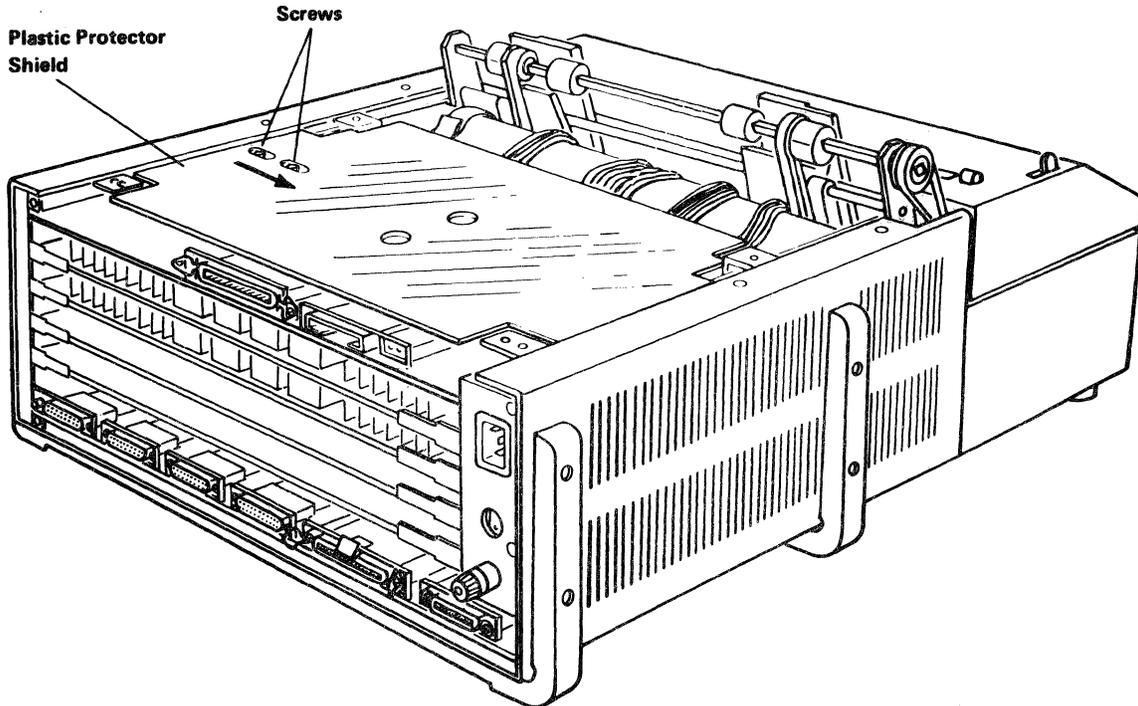

Figure 4-7. Plastic Protector Shield.
10. Remove the plastic protector shield above the printer/plotter control board by loosening two (2) screws and sliding the plastic mount retainers inward toward the center of the unit. Then slide the shield assembly toward the rear of the unit, removing it (See Figure 4-7).
15. Replace the plastic protector shield above the printer/plotter control board and secure it using the two (2) screws (See Figure 4-7).